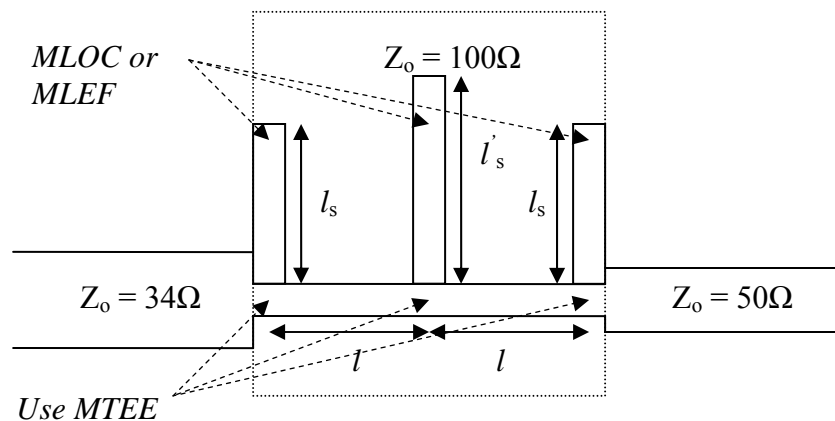

Fig. 3 - Circuit realized with three one-sided open-circuited shunt stubs instead of lumped capacitors.
- Repeat Step 3 using one-sided open-circuited stubs (as shown in Fig. 3) in lieu of the lumped capacitances C_1 and $2.1 * C_1$. With the HP ADS software, include and also neglect the end capacitances for the open-circuited stubs. Use $Z_0 = 100 \Omega$ as the characteristic impedance for the shunt stubs.
5. Redesign the circuit of Fig. 3 using balanced two-sided stubs instead of single-sided stubs. For this circuit, calculate and compare the results for S11 and S21 with those obtained in Step 4. Explain the differences if any.